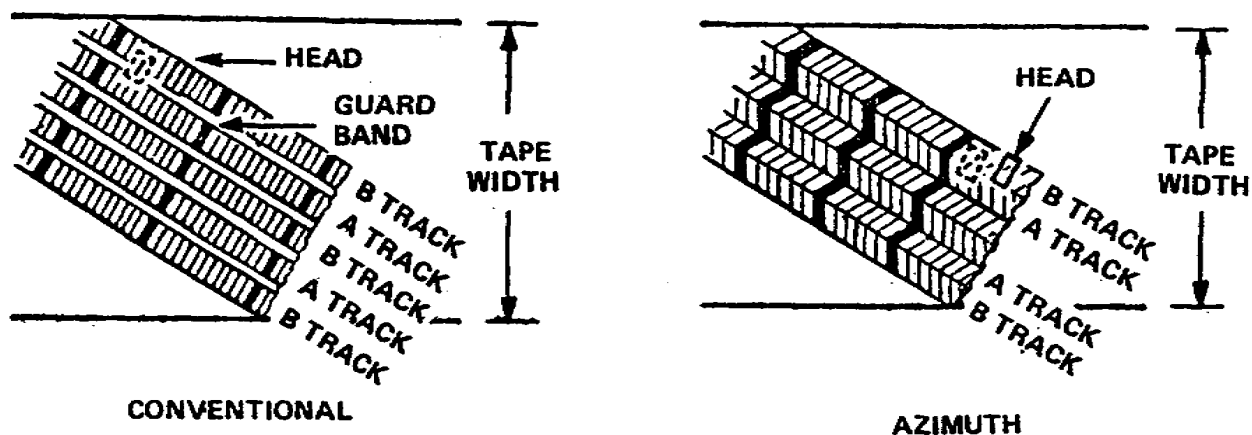

Figure 1-5. One-inch helical scan video tape showing scan tracks
1. There are two major video frequency bands. One is the 3.5mHz band which is referred to as low band and is used by most monochrome recorders. The other is the 5.5mHz to 6.6mHz band, the high band used by recorders with color capability. Figure 1-5 illustrates that slanted 3°6' angle of the recorded video information and other dimensions.